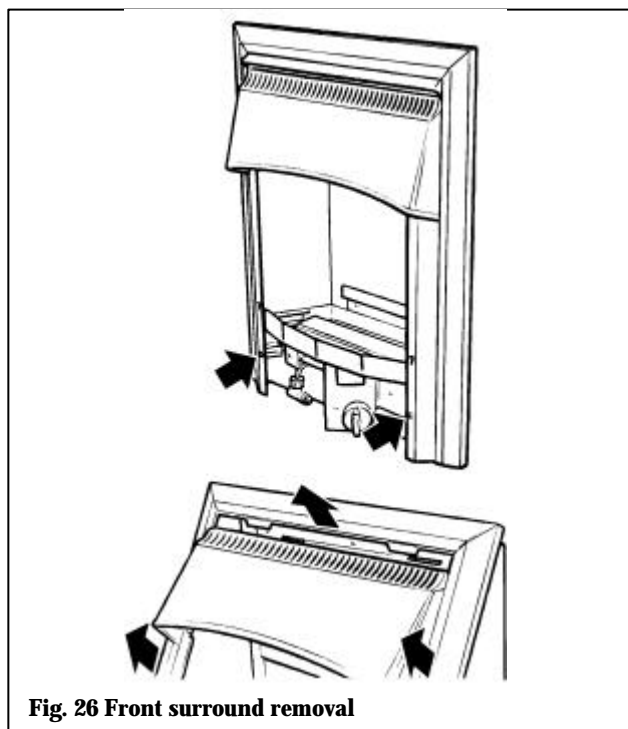

Fig. 26 Front surround removal
12.2.3 Remove the two screws securing the bottom of the front surround to the sides of the convection box. Raise the front surround to allow the retaining lugs at the top to clear the slots in the convection box hood and then lift clear (see figure 26).